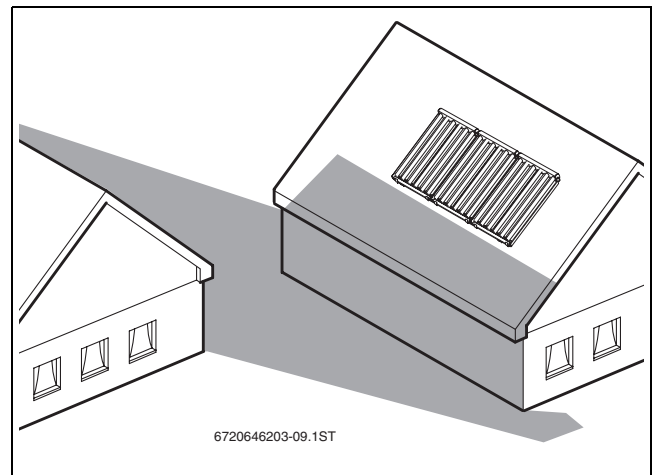

Fig. 14 Avoiding shade
- Avoid shading from adjacent buildings, trees etc. falling onto the collector array (→ Fig. 14).